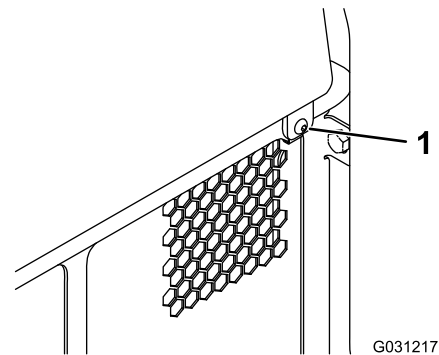

Figure 36
1. Remove the fastener (Figure 36).
2. Lift the rear-access cover up to access the internal components (Figure 36).